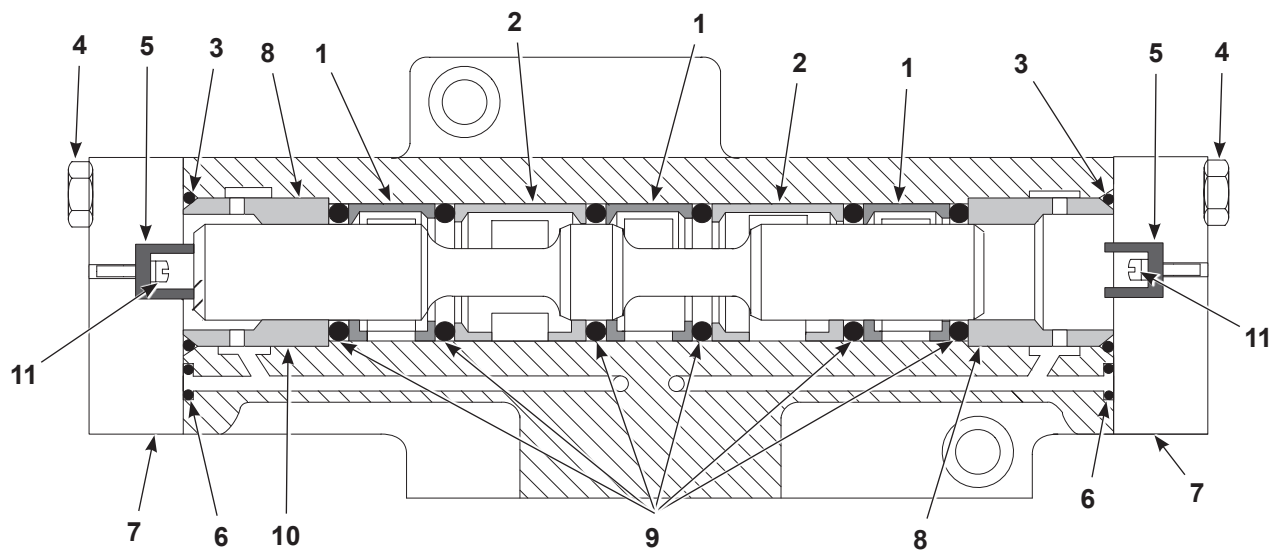

Figure 6-9 Air Valve Rebuild
2. See Figure 6-9. Remove the screws (4) and end caps (7). Remove and discard the O-rings (3, 6).
3. Push out the spool (10).
4. Remove the spacers (1, 2, 8) and the O-rings (9).
6. Lubricate the new O-rings (9) with Vitalizer oil.
7. Hold the air valve vertically and install a red spacer (1) in the center of the valve bore. Hold the spacer in position with a finger.
8. Install a new O-ring (9) on top of the red spacer. Install the remaining spacers and O-rings as shown. Install the end spacers (8) with the chamfered end facing out.
11. Make sure the bumpers (5) are securely fastened to the end caps. Use removeable threadlocking compound on the screws (11).